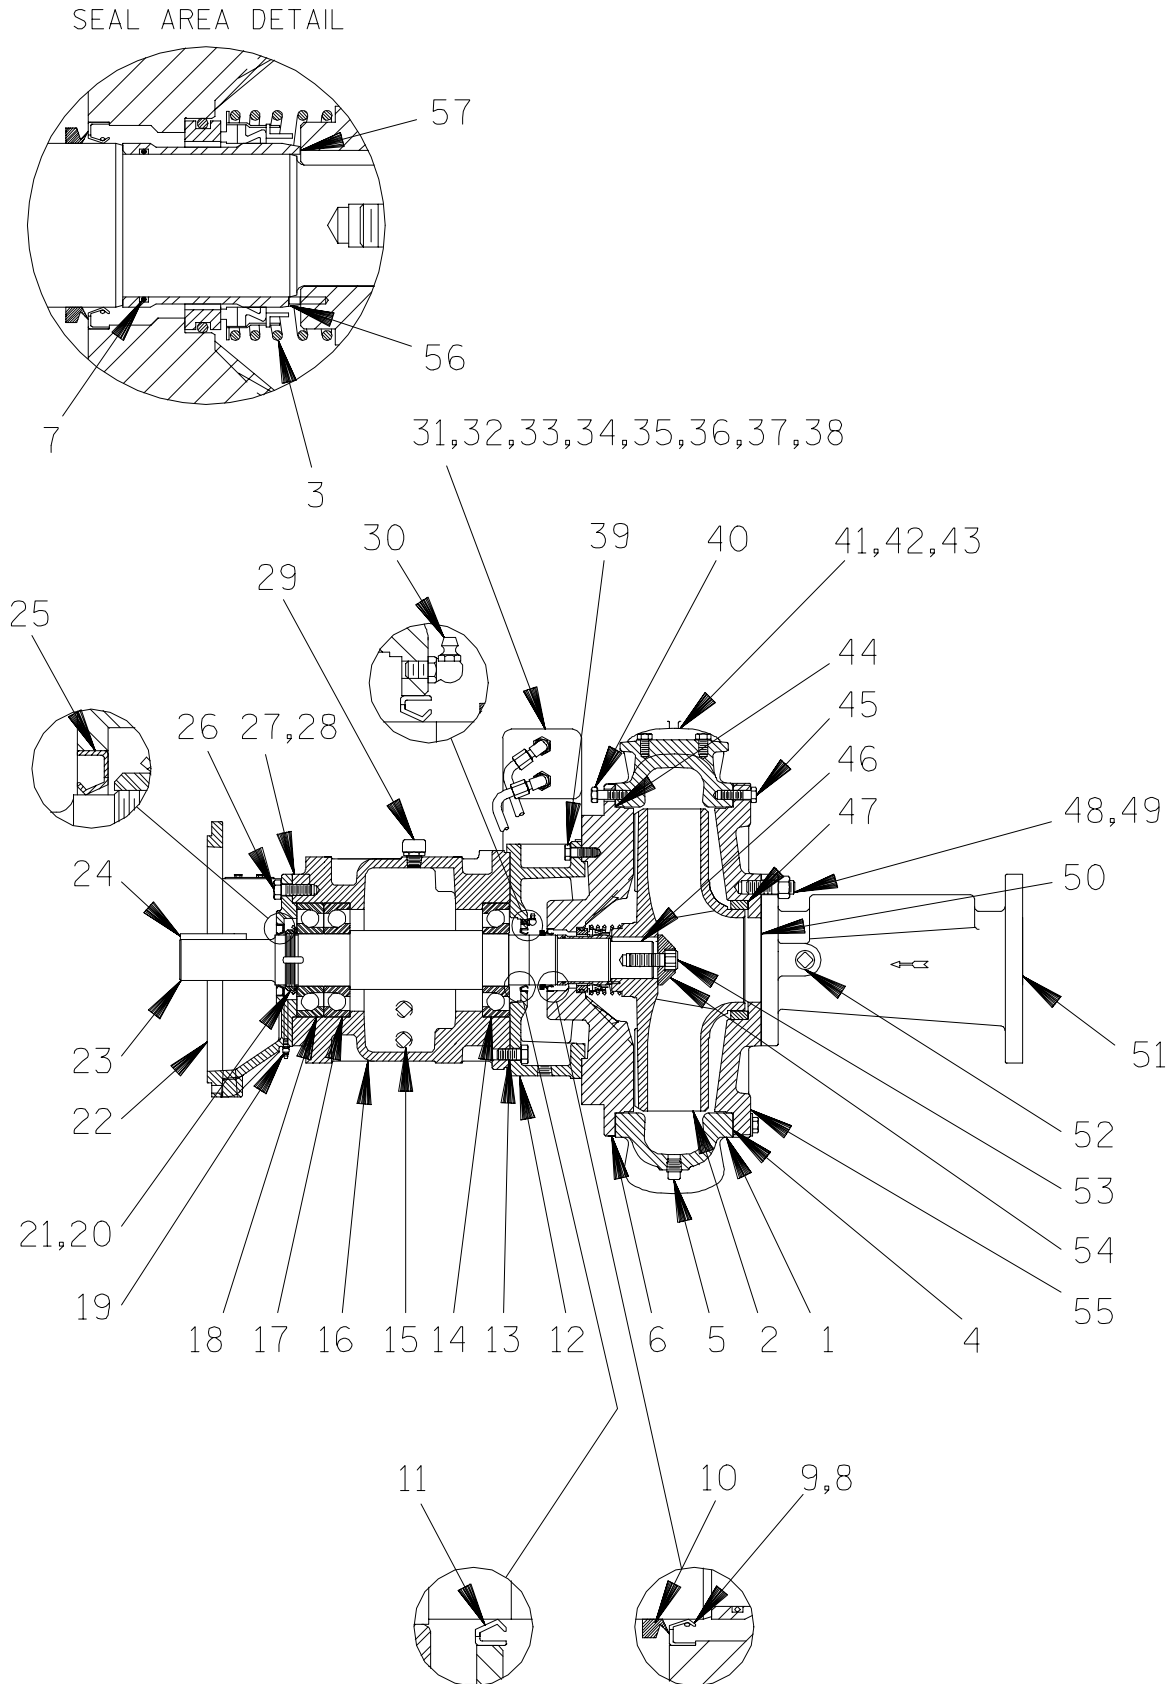

Figure 4. Pump Assembly
chamber assembly using a sling and a suitable lifting device. Remove the hardware (6 and 7) and separate the priming chamber assembly, gasket (8) and baffle (9) from the hopper spool (51, Figure 4).